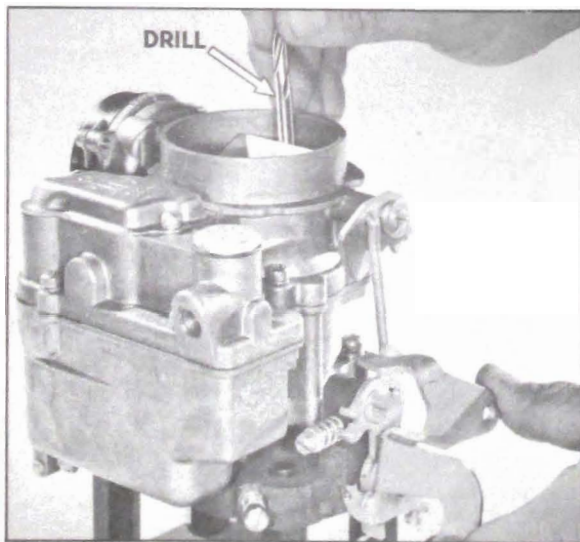

Figure 3-28—Checking Choke Unloader Adjustment
3. Hold choke closed lightly. Fully open throttle, forcing choke valve open. Then check clearance between upper edge of choke valve and wall of air horn using a $\frac{3}{16}$ " drill. See figure 3-28.